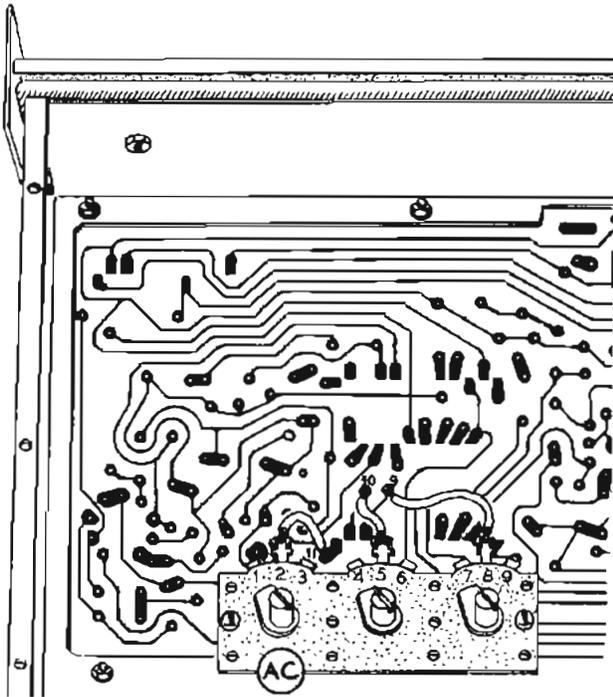

Figure 19
- () Install the remaining triple 250 K Ω control AC. See Figure 19.